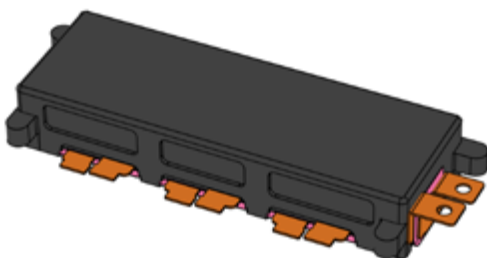

Figure 2: A typical DC link capacitor, with a battery interface on the right and transistor connectors on the front.
Figure 2: Common topology of OBC consisting of PFC (a) The primary side of DC/DC converter (b) The secondary side of DC/DC converter with integrated primary side of HV/LV DC/DC converter
As the automotive industry races toward an electrified future, Bosch is accelerating its R&D into the essential building blocks of electric drivetrains. One of these components is the inverter, which changes direct current (DC) from the car’s batteries into alternating current (AC) to power its drive motor (Figure 1). The inverter’s ability to provide a smooth flow of current depends on its integral DC link capacitor (Figure 2). “The capacitor is one of the most expensive